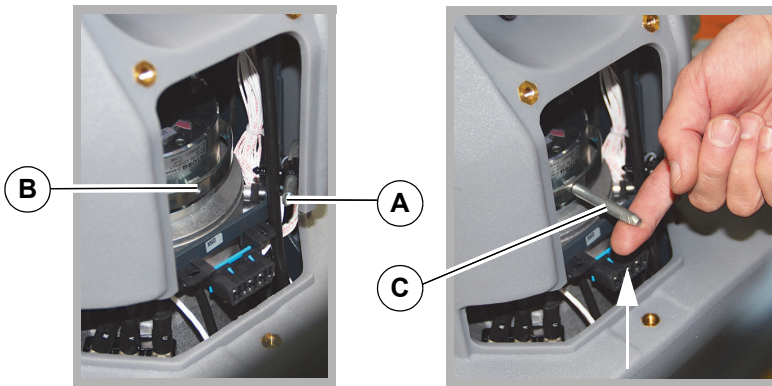

Fig. 20:
2. Remove the pin **Fig. 20-A** from the holder and screw it into the ring **Fig. 20-B**.
3. In order to unlock the parking brake, pull the pin upwards slightly **Fig. 20-C** and simultaneously push the machine.